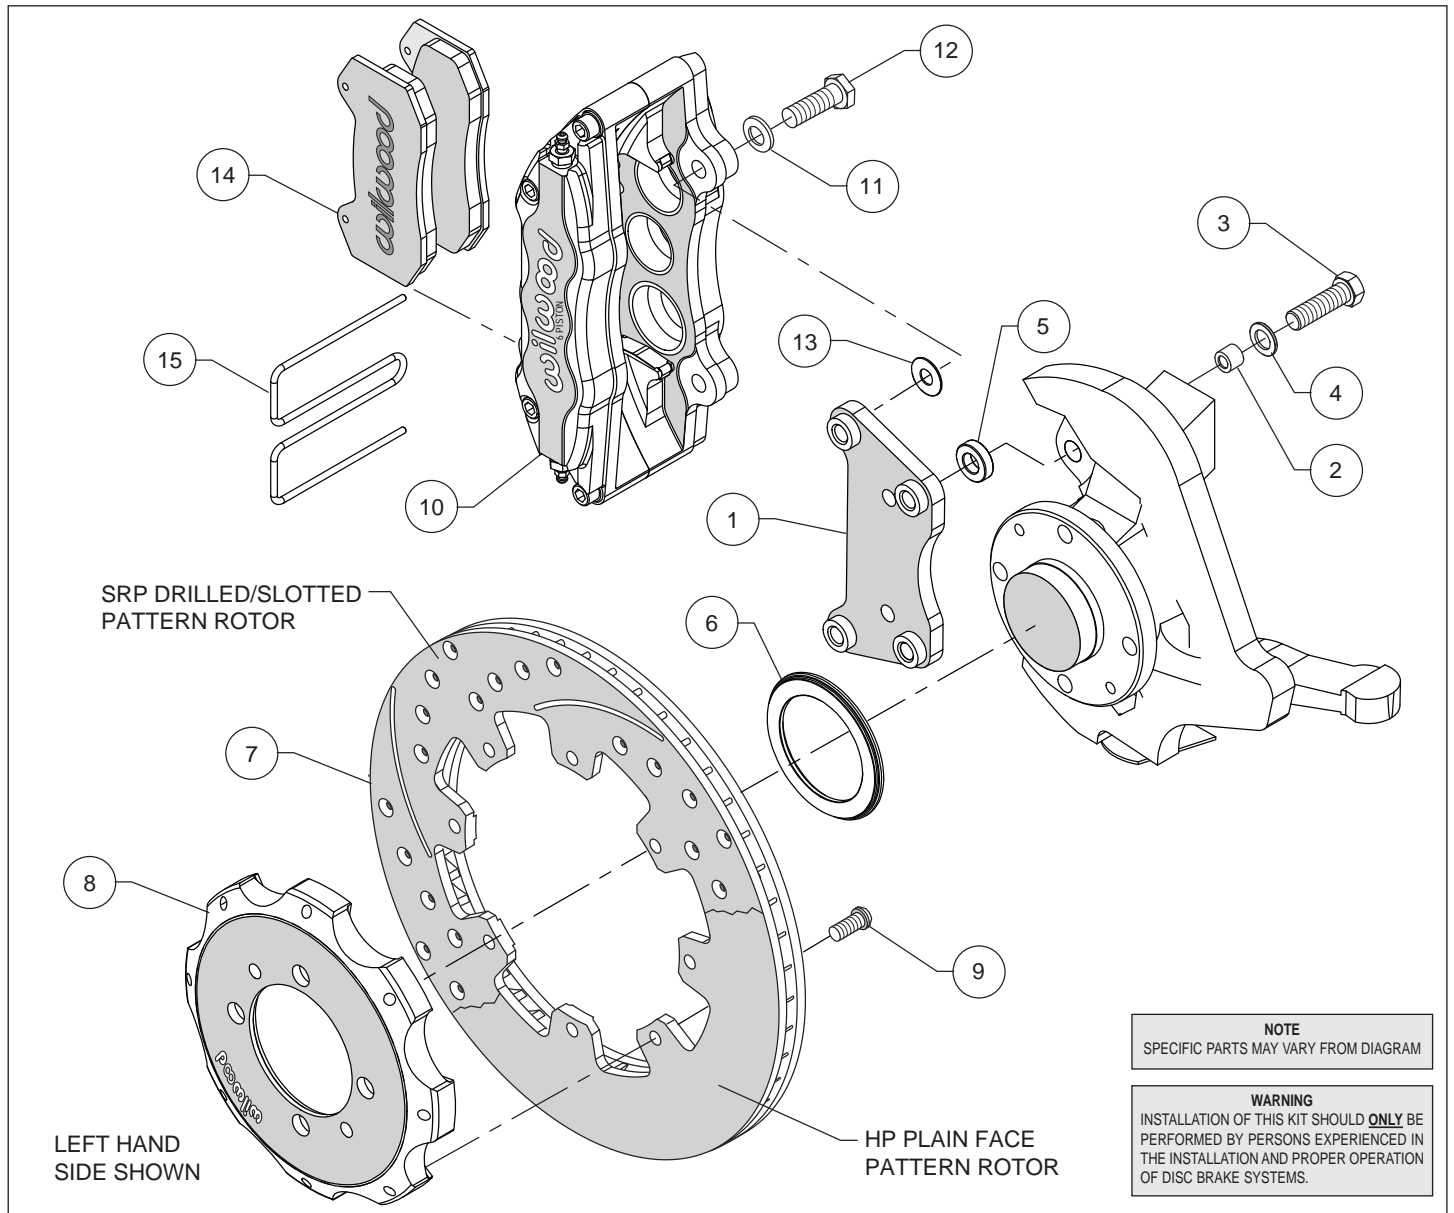
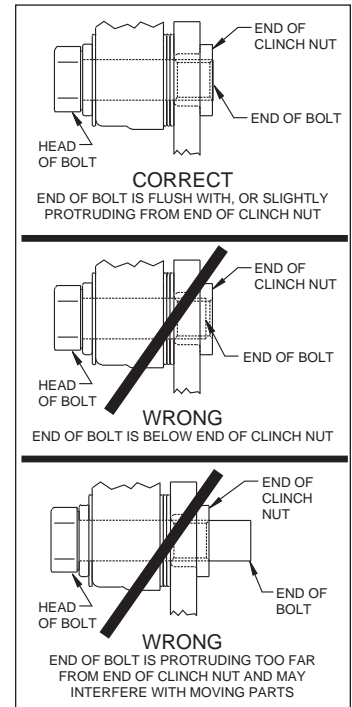

Figure 1. Typical Installation Configuration
Figure 3. Clinch Nut Engagement Diagram
Assembly Instructions (numbers in parenthesis refer to the parts list and Figure 1 on the preceding pages): **CAUTION:** All mounting bolts must fully engage clinch nuts. Be sure to check that all bolts are either flush or protruding through flanged side of clinch nut after shimming, Figure 3.
- Orient the caliper mount bracket (1) as shown in Figure 1 and Photo 1, and install using bolts (3), washers (4), and spacers (5). Insert one sleeve (2) into each of the holes in the spindle “ears” where the Original Equipment Manufacturer (OEM) caliper bracket was removed. Place the spacer between the OEM mounting ears and the bracket, Figure 1. Ensure that the flanged heads of the clinch nuts in the bracket are facing outboard, Photo 1. Temporarily tighten the mounting bolts. **NOTE:** The bracket must fit squarely against the mount bosses on the upright. Inspect for interference from casting irregularities, machining ridges, burrs, etc. Remove bolts one at a time, apply red *Loctite*® 271 to the threads and torque to 60 ft-lb.
- Orient the rotor (7) and the hat (8) as shown in Figure 1 and Photo 2. Attach rotor to hat using bolts (9). Using an alternating sequence, apply red *Loctite*® 271 to the threads, and torque to 25 ft-lb.
- Slide the rotor registration adapter (6) onto the axle register on the axle hub with the smaller O.D. facing toward the rotor/hat (7/8), Photo 3. Align the two locating holes in the hat to the hub and slide the hat/rotor assembly onto the hub, Photo 4. **NOTE:** The hat must fit flush against the hub flange or excessive rotor run out may result. Install the two stock hat locator bolts and torque to OEM specifications.
- **NOTE:** Please reference the caution statement at the beginning of the assembly instructions. This kit contains distinct right and left hand calipers that must be mounted in a specific direction, as described below. Mount the caliper (10) onto the caliper mounting bracket (1) using bolts (12) and washers (11), as shown in Figure 1. Initially place one .035" thick shims (13) on each bolt between the caliper and the bracket, Photo 5. Ensure that the caliper is mounted so the largest pistons are at the rotor exit end of the caliper, in relation to the direction of rotor rotation. Temporarily tighten the mounting bolts and view the rotor (7) through the top opening of the caliper. The rotor should be centered in the caliper, Photo 6. If not, adjust by adding or subtracting shims between the bracket and the caliper. Always use the same amount of shims on each of the two mounting bolts. **NOTE:** The end of each bolt must be flush with or slightly protruding from the head of the clinch nut, as shown in Figure 3. If necessary place spare shims between washer (11) and caliper mounting ear to achieve the proper clinch nut engagement. Once the caliper alignment and clinch nut engagement are correct, remove the bolts one at a time, apply red *Loctite*® 271 to bolt threads, and torque to 40 ft-lb.